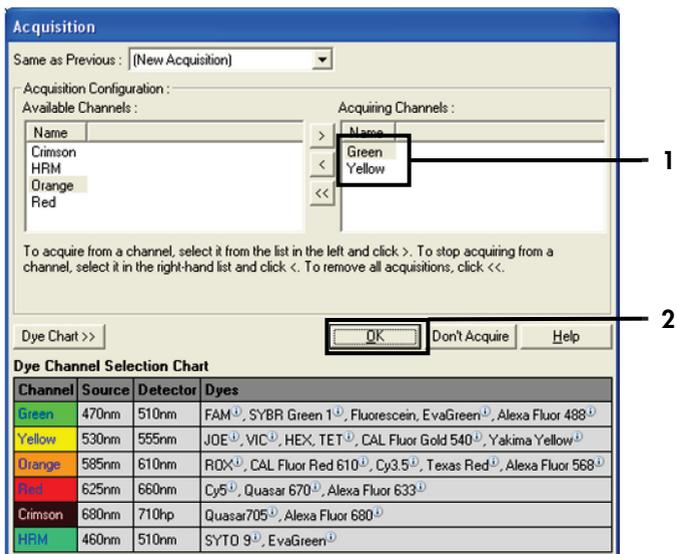

Figure 27. Acquiring at cycling step of 60°C. 1 = Selected channels; 2 = "OK."
10. Select **Green** and **Yellow** as acquiring channels. Click > to transfer these channels from the Available Channels list to the **Acquiring Channels** section. Click **OK** (Figure 27).